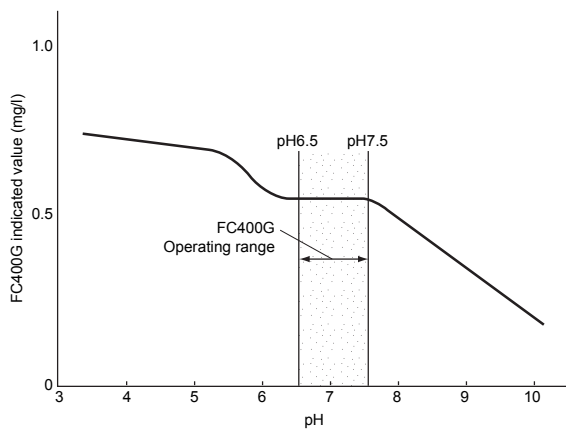

Figure 2.1 Sensitivity characteristics of diffusion current by pH value
- pH; 6.5 to 7.5 (see Figure 2.1)